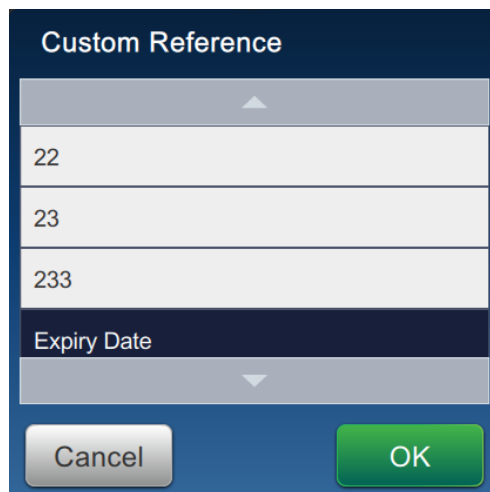

Figure 6-12: Custom Reference List
8. Select Expiry Date from the Custom Reference list as shown in Figure 6-12.
14. Select Expiry Date from the Custom Field Reference list as shown in Figure 6-12 on page 6-15.